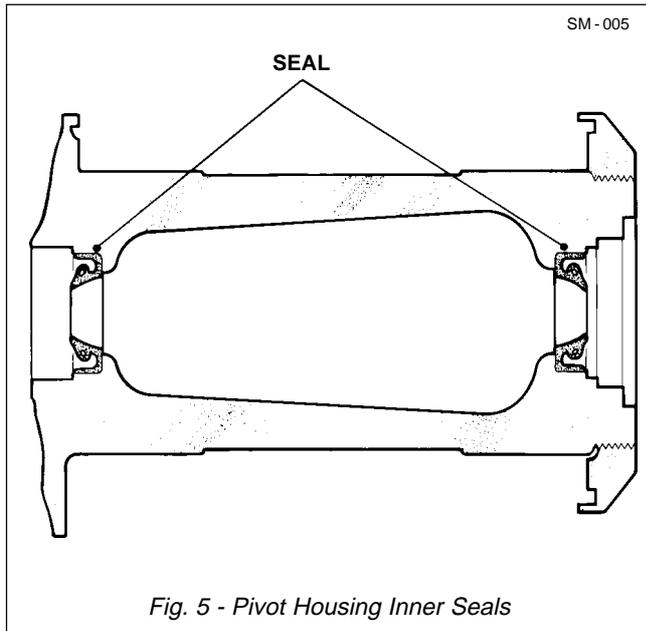
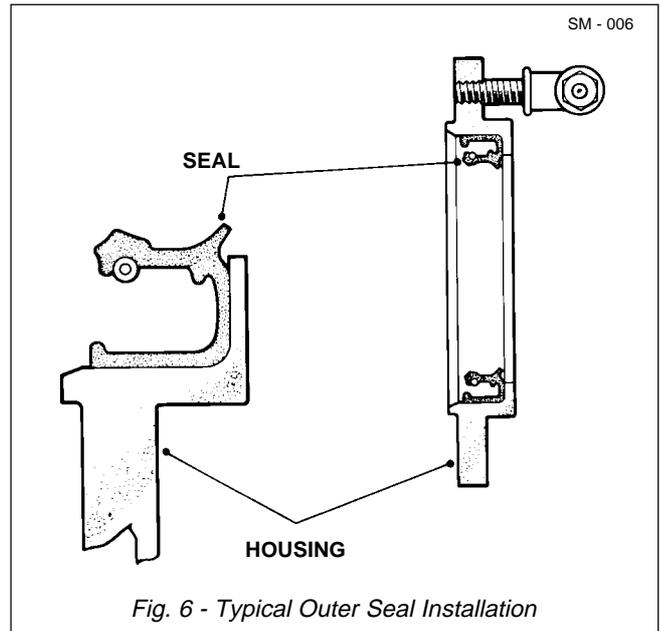

Fig. 5 - Pivot Housing Inner Seals
Fig. 6 - Typical Outer Seal Installation
6. Degrease front bearing (30) housing in pivot (1) with a suitable solvent and allow to dry.
**Note:** Front bearing (30) of shaft (37) is secured with retaining compound as well as normal hardware. Cleaning the bearing housing ensures a good bond. THE REAR BEARING IS SECURED BY NORMAL HARDWARE ONLY.
7. Apply coat of grease to new seals (29) and install seals in pivot housing. Make sure seal lips are facing outwards as shown on Fig. 5.
8. Make sure that pivot shaft bearing (30) is pre-packed with grease then position spacer (19), bearing (30) and washer (39) on rear of shaft (37).
9. Apply bead of grease to fill inner rim of new seal (40) and position new seal in rear housing (31). Refer to Fig. 6. Fill lube fitting (24) assembly on rear housing with grease and make sure that nipple (22) does not protrude into grease slot in rear face of housing (31).
10. Assemble rear housing (31) and brake yoke/disc assembly (16) onto rear of shaft (37). Secure with locknut (25) and both washers (26) but only fingertight at this stage.
11. Insert shaft (37) assembly fully into pivot (1) from the rear. Take care not to dislodge internal seals (29).
12. Partially withdraw shaft (37) assembly to enable housing of rear pivot driveline bearing (30) to be filled with grease from 1/3 to 1/2 of capacity.
13. Reposition shaft (37) assembly fully in pivot (1).
14. Align housing (31) with lube fitting (24) uppermost and secure with lockwashers (14) and bolts (20). Torque tighten bolts (20) to 106 Nm (78 lbf ft).
15. Apply a bead of grease to fill inner rim of new seal (12) and position seal in front housing (28). Refer to Fig. 6. Fill pipe (3), through lube fitting (50), with grease. Make sure that pipe (3) does not protrude into grease slot in rear face of housing (28).
16. Install spacer (19) onto front of shaft (37).
17. Pre-pack bearing (30) with grease taking care not to place any grease on outer curved surface. Clean this surface with a suitable solvent where necessary and allow to dry.
18. Make sure mating surfaces of housing (28) are still clean then apply coating of retaining compound to mating surfaces of bearing (30) and housing (28). Install bearing (30) on to front of shaft (37).
19. Pack housing (28) of with grease from 1/3 to 1/2 of capacity.
20. Install front housing (28), front yoke (27), both washers (26) and locknut (25).
**Note:** Take care to avoid damaging the pipe (3) when performing Steps 21 through 22.
21. Lock brake yoke/disc (16) assembly with a suitable tool and install locknut (25) on front yoke (27). Torque tighten locknut (25) to 678 Nm (500 lbf ft).
22. Lock front yoke (27) and torque tighten locknut (25) on brake yoke assembly to 678 Nm (500 lbf ft).
23. Align front housing (28) with pipe (3) uppermost and secure in place with bolts (20) and lockwashers (14). Torque tighten bolts (20) to 106 Nm (78 lbf ft).